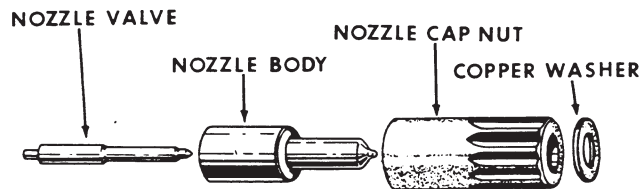

Figure I-19
1. Remove the nozzle valve from the nozzle body, Figure I-19, usually this can be done with the fingers. If it cannot, it will be necessary to soak nozzle assembly in some sort of a carbon solvent to loosen gum and carbon. Place nozzles on a felt pad in a container to prevent polished surfaces from contacting container.